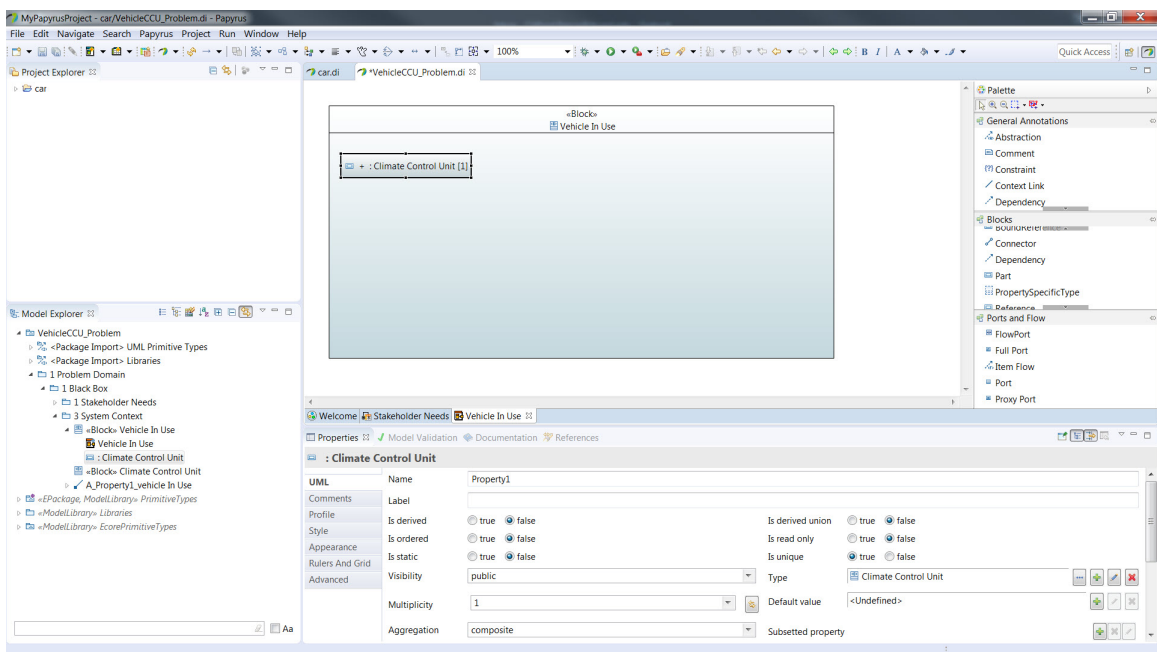

Figure 23: Climate Control Unit with Label Removed
- Let's make this new block a little cleaner by not displaying the *Property1* name in front of the colon in the *Climate Control Unit* part in the diagram. Select the *Climate Control Unit* in the diagram. In the *Properties* window at the bottom of the screen select the *UML* tab and place your cursor in the *Label* field. Type a single Space with the spacebar and hit *Enter*. Your *Climate Control Unit* should now look like figure 23.